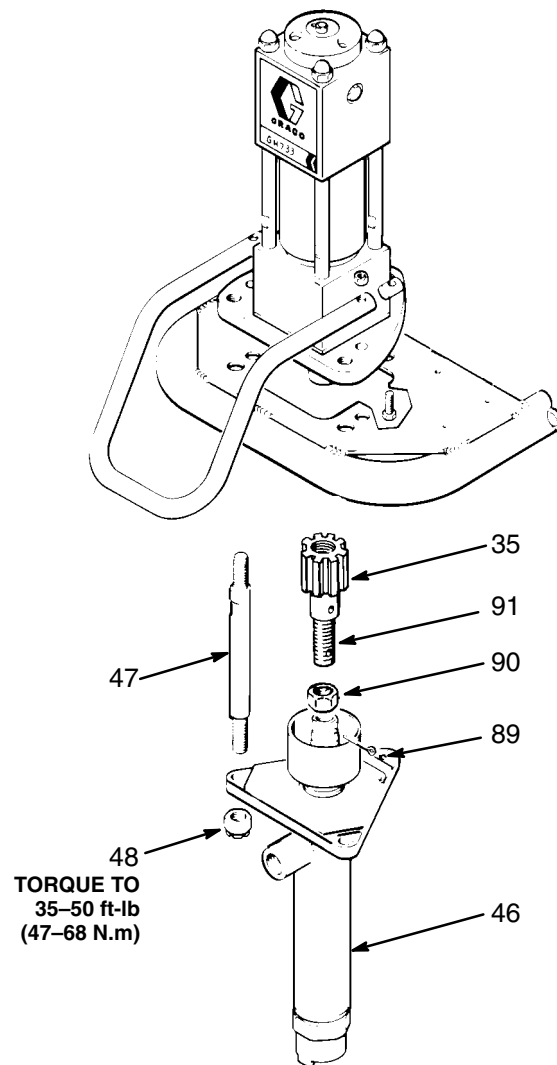

Fig 14
4. Unscrew the three tie rod locknuts (48). See Fig 14.
5. Unscrew the shouldered nut (35). Pull the displacement pump (46) off the tie rods (47).
6. Screw the jam nut (90) up onto the connecting rod (91).
7. Remove the lower cotter pin (89) and unscrew the connecting rod (91) from the displacement rod (A).
1. Screw the connecting rod (91) into the displacement rod (A) and replace the lower cotter pin (89). Screw the jam nut (90) all the way down. See Fig 14.
2. Mount the displacement pump (46) onto the tie rods (47).
3. Screw the shouldered nut (35) onto the hydraulic motor (29). Screw the tie rod locknuts (48) onto the tie rods (47) and torque to 35–50 ft-lb (47–68 N.m).